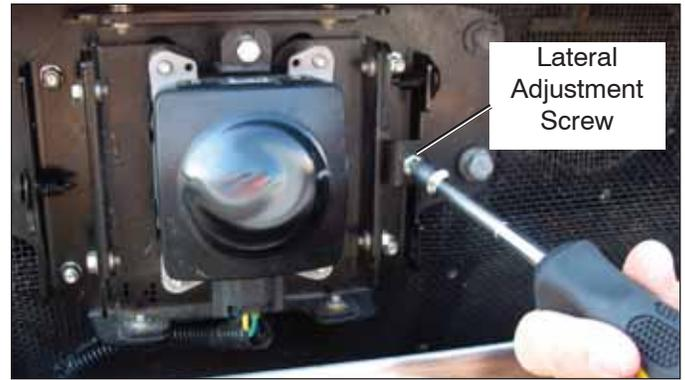

FIGURE 37 - LATERAL ADJUSTMENT
2. See Figure 37. Adjust the lateral adjustment screw until the desired alignment is reached. DO NOT remove the screws. Use steps 4 through 7 in Section 6.09: Check Lateral Alignment section to measure.